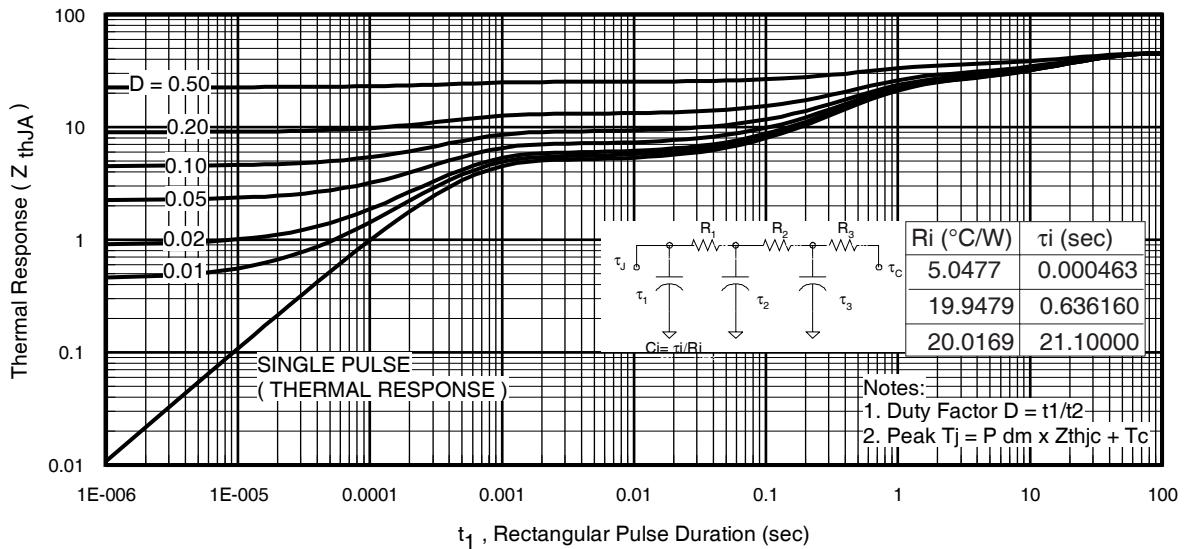
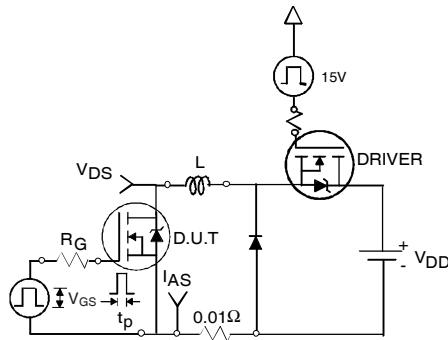

Fig 11. Maximum Effective Transient Thermal Impedance, Junction-to-Ambient
Fig 12a. Unclamped Inductive Test Circuit
- ① Repetitive rating; pulse width limited by max. junction temperature. (See fig. 11).
- ② Limited by $T_{J\text{max}}$, starting $T_J = 25^\circ\text{C}$, $L = 2.8\text{mH}$ $R_G = 25\Omega$, $I_{AS} = 3.1\text{A}$, $V_{GS} = 10\text{V}$. Part not recommended for use above this value.
- ③ Pulse width $\leq 1.0\text{ms}$; duty cycle $\leq 2\%$.
- ④ $C_{\text{oss eff.}}$ is a fixed capacitance that gives the same charging time as C_{oss} while V_{DS} is rising from 0 to 80% V_{DSS} .
⑤ Limited by $T_{J\text{max}}$, see Fig.12a, 12b, 15, 16 for typical repetitive avalanche performance.
⑥ This value determined from sample failure population. 100% tested to this value in production.
⑦ When mounted on 1 inch square copper board.
⑧ When mounted on FR-4 board using minimum recommended footprint.
3. Equation below based on circuit and waveforms shown in Figures 12a, 12b.
- $Z_{thJC}(D, t_{av}) = \text{Transient thermal resistance, see figure 11)}$